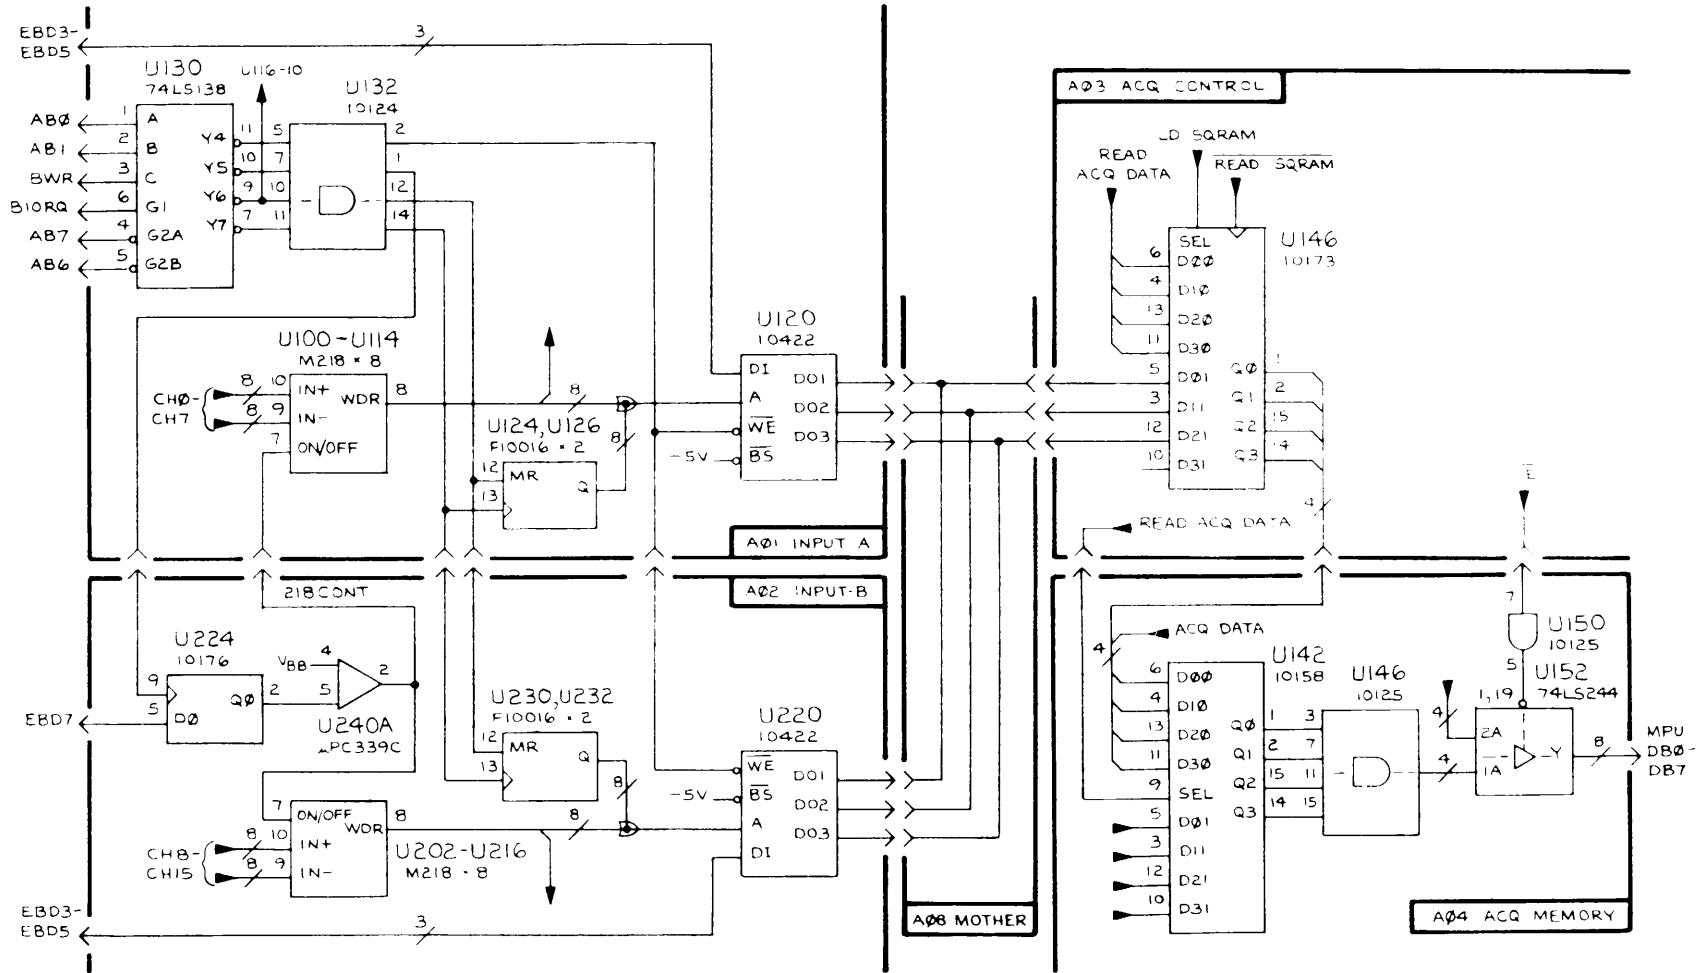

Figure 7-7. 318 Word recognizer test.
**Description:** Refer to Figure 7-7. On the A01 INPUT-A board, data from channels 0 through 7 (Pod- A) is latched by M218s U100 through U114 <1> (logic analyzer input, M218) and supplied to the word recognizer (WR) U120 (256 word X